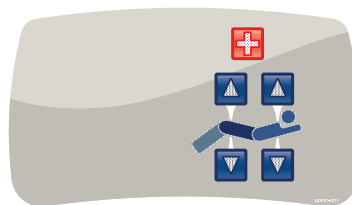

**Figure 134: Attaching the optional patient control pendant**
1. Slide the pendant into the molded pendant holder inside the foot end siderail handle (A) (Figure 134 on page 116).
2. Plug the pendant cable connector into the pendant connector that is located behind the foot end siderail (B) (Figure 134 on page 116).